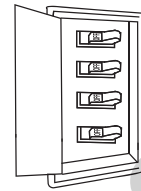

Fig. 1
1. Turn off circuit breakers and wall switch to the fan supply line leads. [Fig. 1]